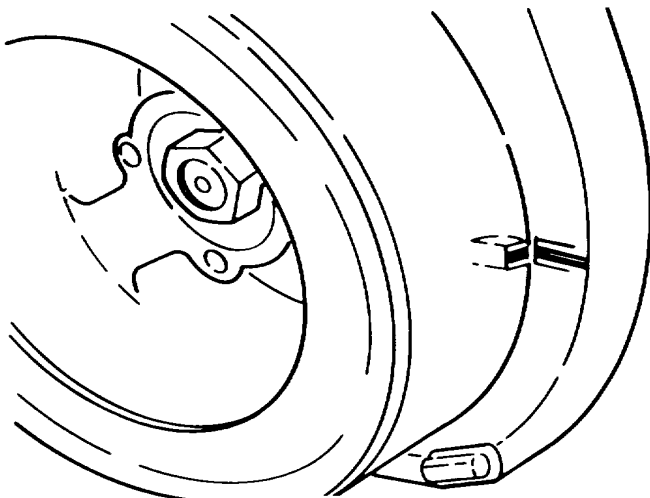
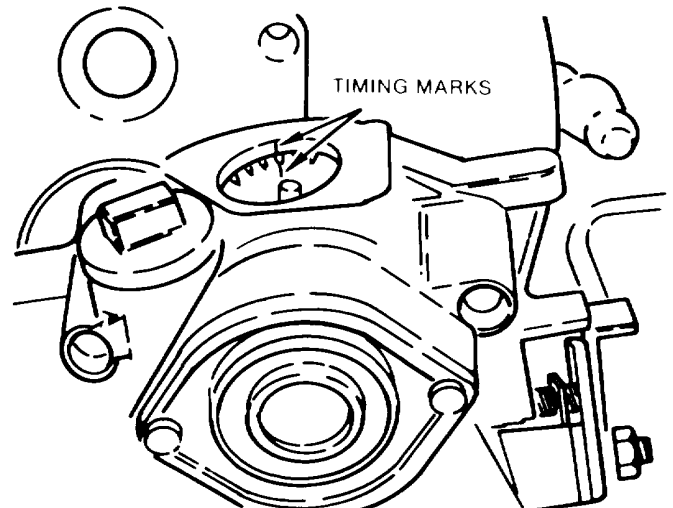
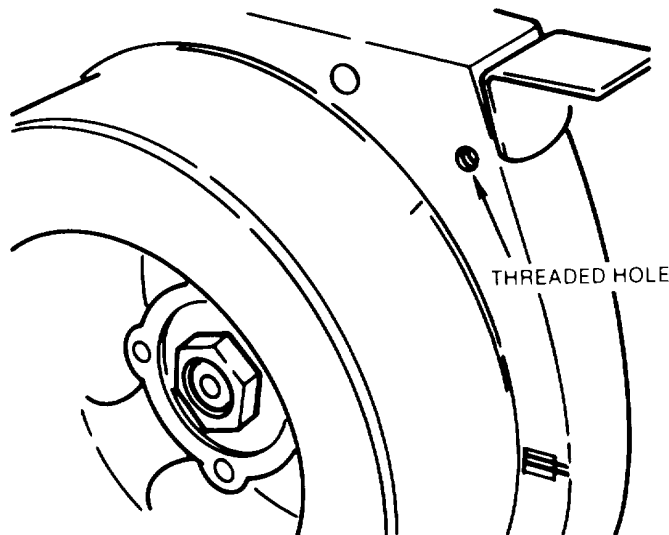

Figure A-47. Gear Cover
Figure A-48. Timing Marks
Figure A-49. Threaded Hole
j. Gear Cover. To install the gear cover, first bring the crankshaft to TDC1 (top dead center). This is done by aligning the flywheel timing mark with the TDC mark stamped on the crankcase at the 12 o'clock position. (Figure A-47.)
- (1) Next, line up the timing mark on the cam gear with the mark on the gear cover. This mark is visible on the inside ridge of the compression release mounting flange.
- (2) Install the gear cover (remember to replace the gaskets) onto the crankcase being careful not to move the cam gear. After the cover is installed, check the timing by aligning the cam gear with the timing mark on the gear cover and checking the timing mark on the flywheel. If the crankcase and flywheel timing marks are within 1/4" of lining up, the timing is correct. (Figure A-48).
- (3) Occasionally, however, the governor will tighten onto the crankshaft in a position that makes it difficult to install the gear cover. If this happens, use the following procedure to install the cover.
- a** Turn the flywheel until its timing mark aligns with the threaded hole in the crankcase at approximately the 1 o'clock position. (Figure A-49.)